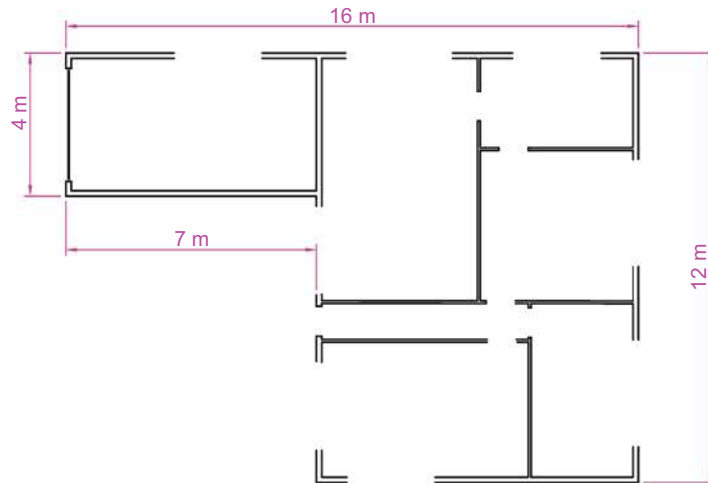

Fig. 13.5 First example – inserting blocks – outline plan
constructed. Erase all of the drawings of the symbols and in their place construct the outline of the plan of a bungalow to a scale of 1:50 (Fig. 13.5). Then:
3. With the outline plan (Fig. 13.5) on screen, the symbols can all be *dragged* into position from the DesignCenter.